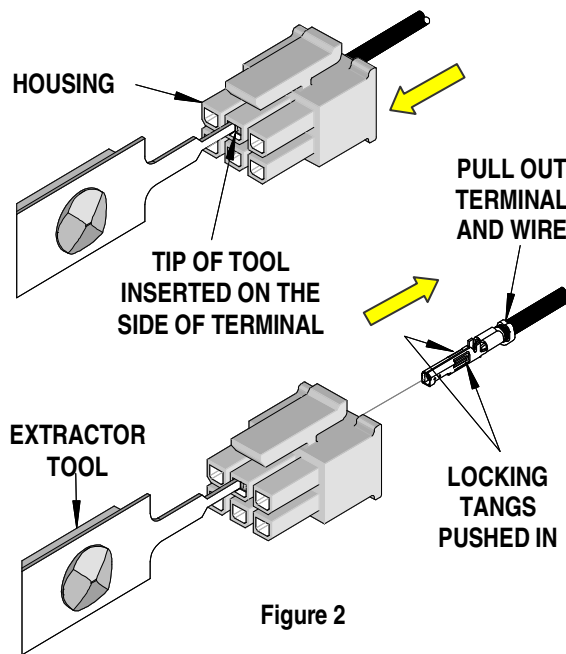

Figure 2
4. Pull on the wire and remove the terminal from the housing. See Figure 2.